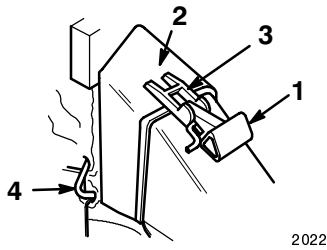

Figure 39
15. Ensure that the discharge door handle is fully forward (door closed) (Fig. 39).
Note: In Figure 39, the brush guard is not shown for the purpose of clarity.
16. Fit the bag door opening over the discharge tunnel opening as shown in Figure 39.
2. Lift the door latch until it clears the bag notch and move the discharge door handle forward (Fig. 39).